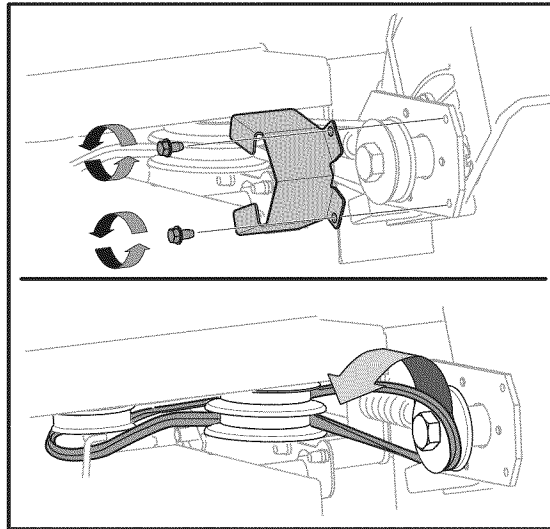

Figure 6-4: Steps involved in replacing the belt.
IMPORTANT: To aid in reassembly, note the orientation of the drive belt on the two idler pulleys and the engine flywheel pulley prior to performing the following steps, Figure 6-4.
1. Working in front of the edger, loosen the flange lock nut on top of frame, allowing the idler pulley assembly to pivot slightly out from the frame, Figure 6-4.